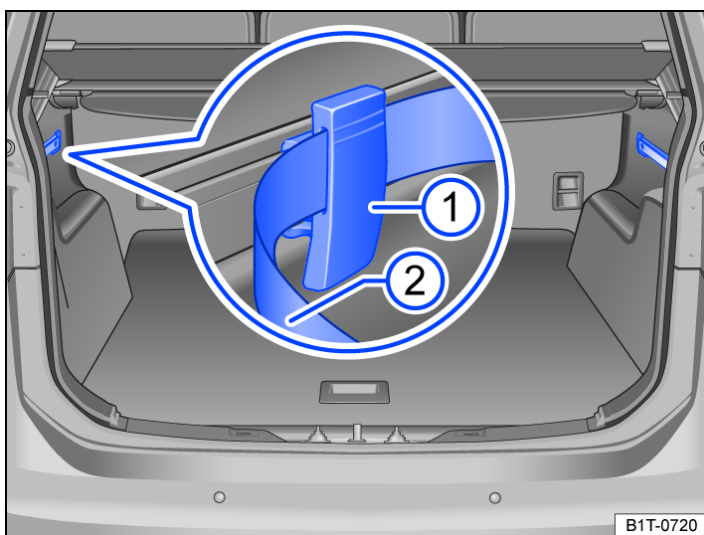

Fig. 1 In luggage compartment: rail system with rails, moveable fixation elements and fixable securing strap.
- Moveable fixation elements → Fig. 1 ⁽¹⁾.
- Securing straps that can be fixed on the rails → Fig. 1 ⁽²⁾.
- Insert the fixation element in the rail from above with the grooves facing up → Fig. 1 ⁽¹⁾ and press on at the bottom.